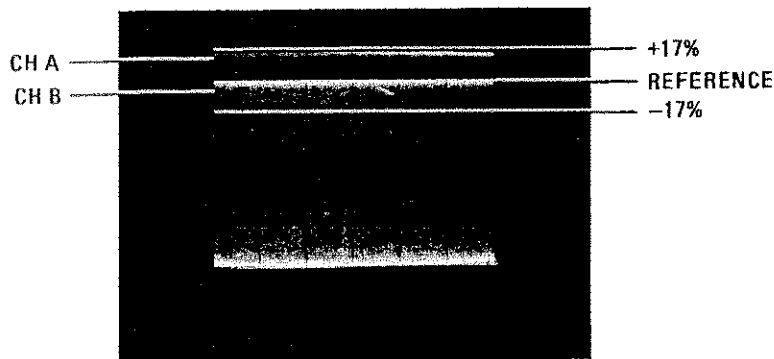

Figure 4-23. FM Frequency Response Waveform
- I. Using vertical POSITION controls of oscilloscope, adjust the two superimposed waveforms so that they are aligned at the bottom edge at point measured. (See Figure 4-23.) CH A waveform should not be more than 8 minor divisions higher or 6 minor divisions lower than CH B waveform. This indicates approximately +41, -29 percent, or  $\pm 3$  dB, since four major divisions represent 100 percent and each minor division represents 5 percent.
- o. Using vertical POSITION controls of oscilloscope, adjust the two superimposed waveforms so that they are aligned at the bottom edge at point measured. (See Figure 4-23.) CH A waveform should not be more than 3-1/2 minor divisions higher or lower than CH B waveform. This indicates approximately  $\pm 17$  percent, or  $\pm 1.5$  dB, since four major divisions represent 100 percent and each minor division represents 5 percent.